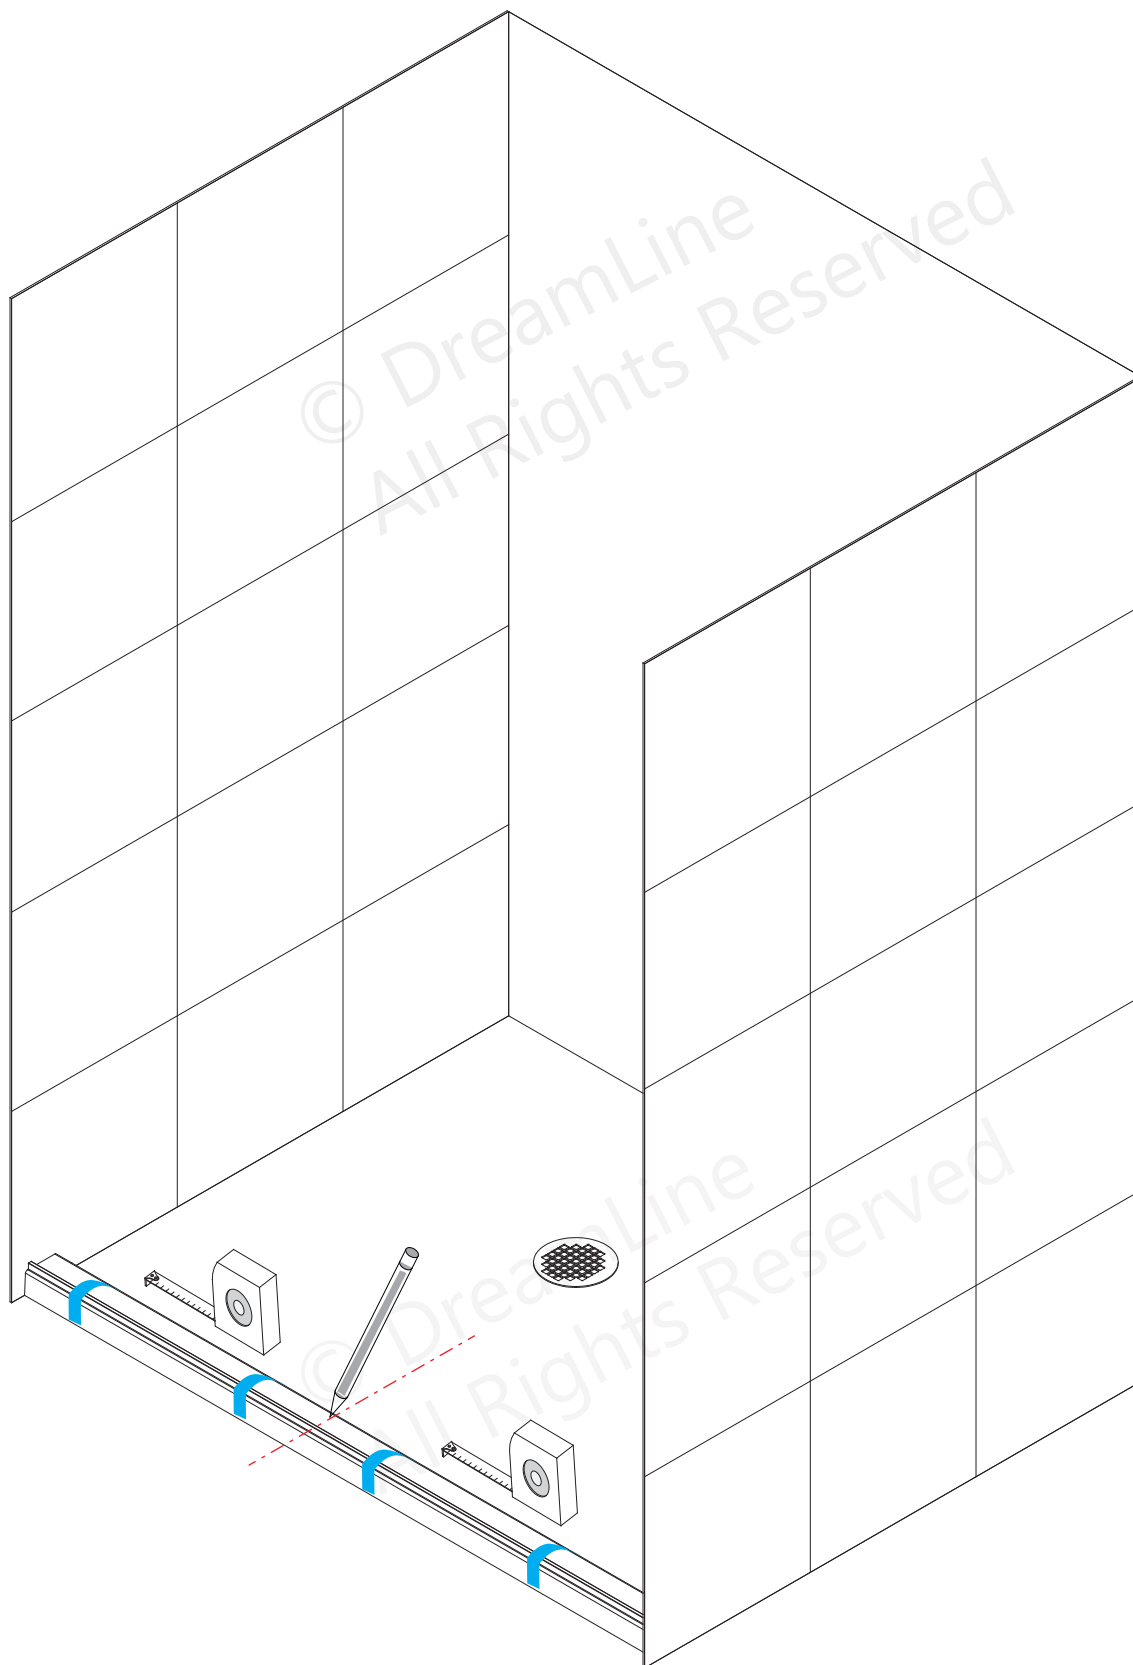

Fig 7
7. Measure across the width of the threshold to locate and mark the center. **(Fig 7)**